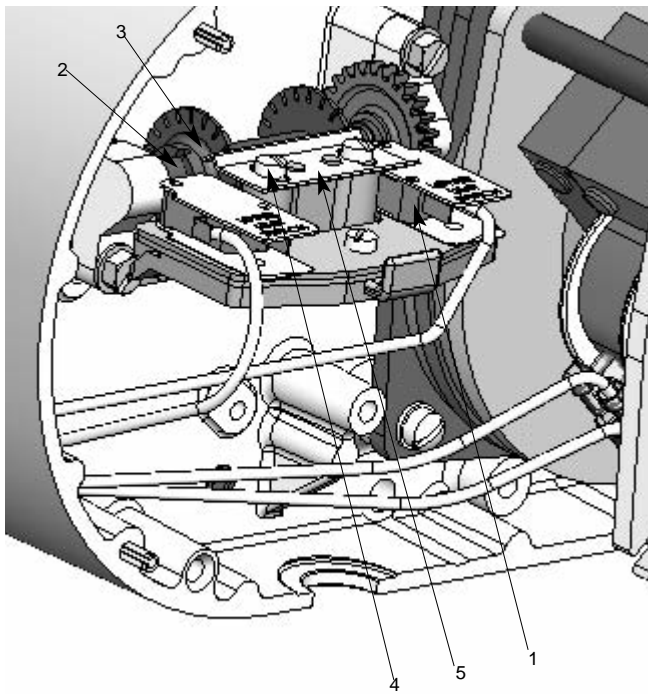

**Figure 16. Limit Switches, Models A thru H-2**
- Loosen the screws to permit guide plate to be moved out of engagement with the traveling nuts, refer to Figures 16 and 17. For Rotatable Limit Switch, slightly pull out on the guide spring, disengaging the the travel nut, refer to figure 16A and 17A.